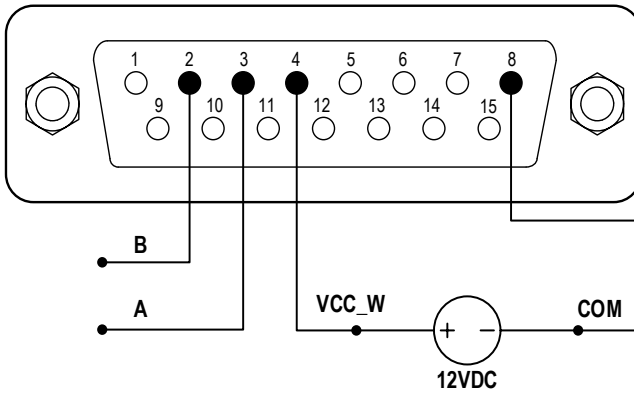
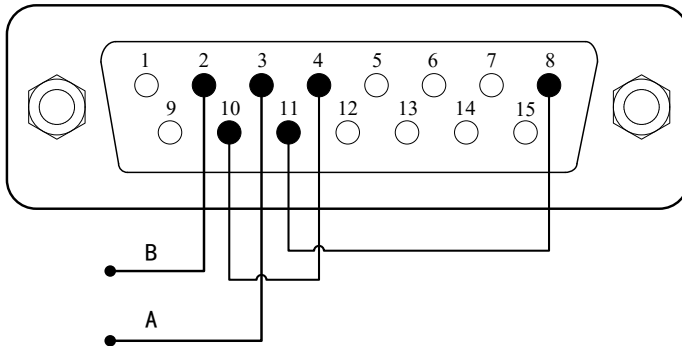

Figure 17. RS485 MODBUS Wiring with External 12V Power Source
Figure 18. RS485 MODBUS Wiring with Internal 12V Power Source
1) When the power is off, wire the DB15 connector as shown on Figure 17 or Figure 18 and connect it to the DB15 port on the rear